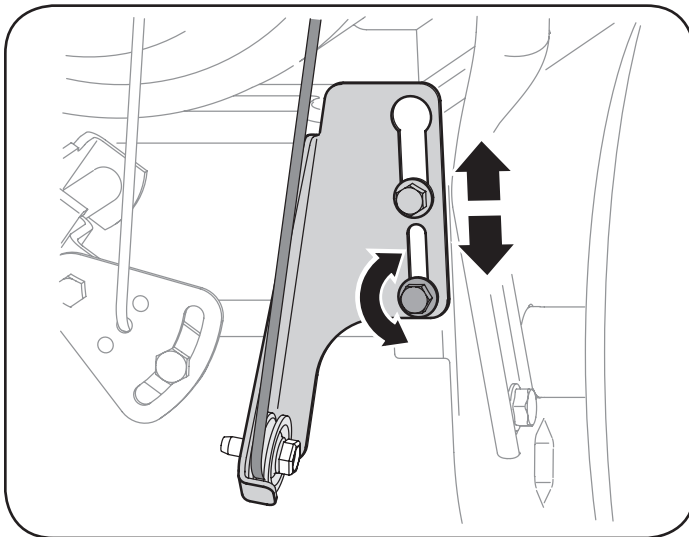

Figure 63
- b. Loosen the lower hex bolt on the drive cable bracket. See Figure 63.